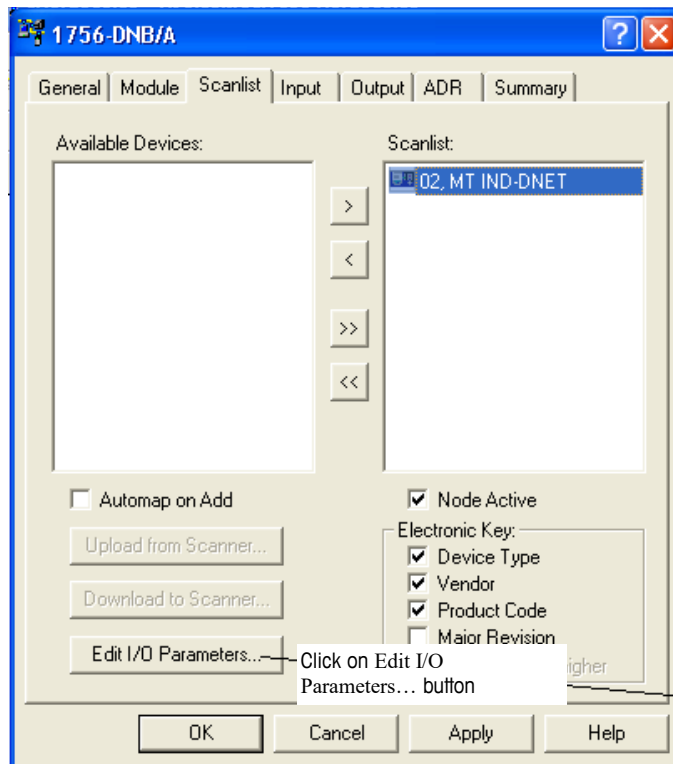

Figure 5-19: IND Terminal Added to Scanlist
8. Highlight the IND Terminal (MT IND-DNET) and left-click to add it to the Scanlist. Once the IND Terminal is added, it will appear in the right pane (Figure 5-19). Click OK.